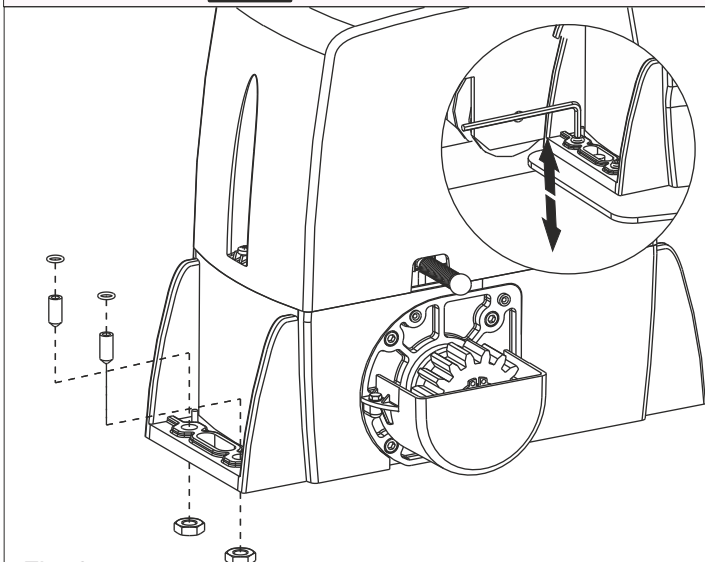

Fig. 6
4.1. Insert the 4 grub screws into the special holes, in order to adjust the gearmotor height on the plate (Fig. 6)